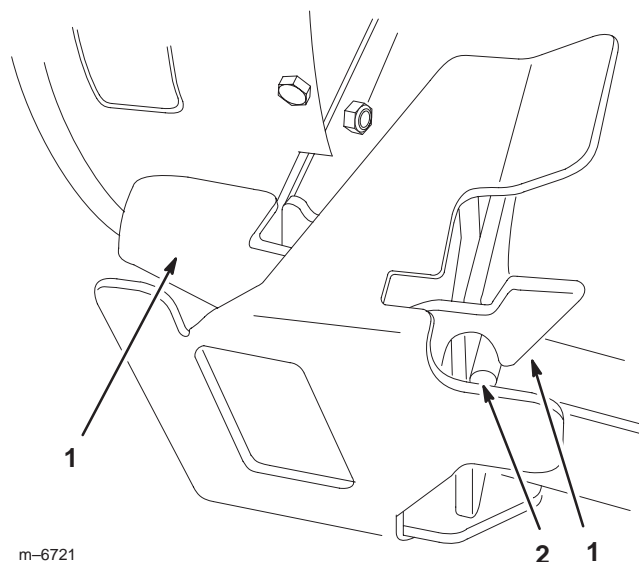

Figure 29
2. The blower latch must engage over the front peg (Fig. 29). If it does not, proceed to step 3 and lengthen the latch.